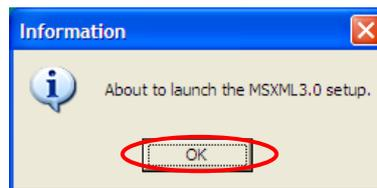

Figure 1-1-4 Installation Steps (4)
- After installation, an interface “About to launch the MSXML 3.0 setup” will appear. Then click “OK”, as shown in figure 1-1-4.